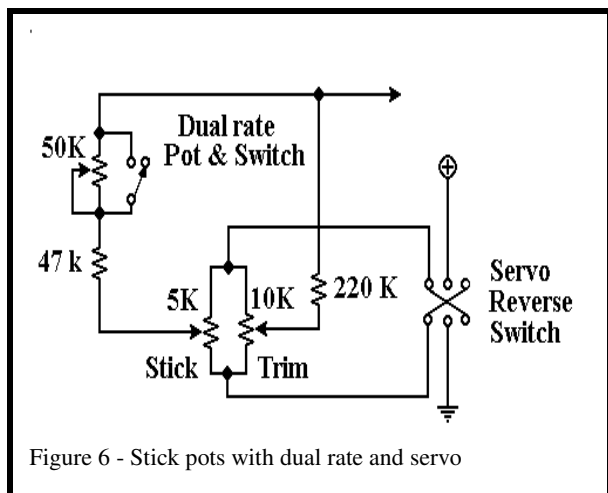

Figure 6 - Stick pots with dual rate and servo
channel input, and not the resistance of the pot, that alters the pulse width. This makes servo reversing a simple matter of reversing the voltage across the pot. This is easily accomplished with a double pole double throw switch as show in figure 6.
**Dual Rate** - Since the voltage swing applied to the input pin will be reduced by adding a series resistor, adding dual rate only requires that we add a pot in the stick leg to reduce the input swing (Figure 6). The pot is shorted by the switch in high rate, providing max voltage swing. When the switch is opened, the setting of the pot controls how much we reduce the voltage swing (low rate).